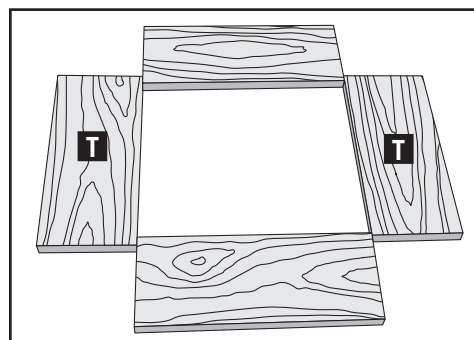

Fig. 19
- STEP 3: Label the tail boards (drawer sides) with a "T" (Fig. 19).